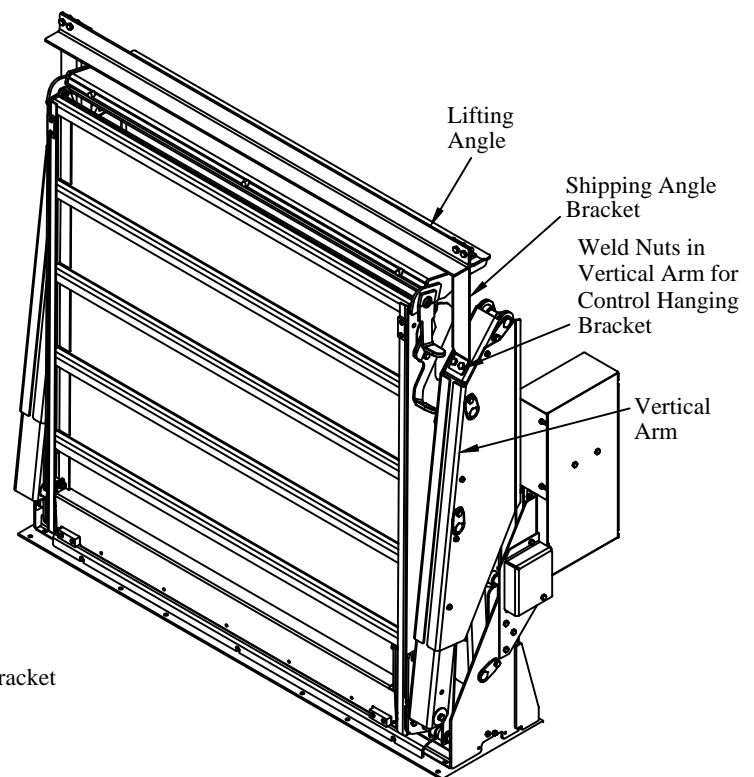

Figure 22: Lifting angle and vertical arm.
5. **Unbolt** and **Remove** the lifting angle and brackets (Figure 22). There are weld nuts inside the vertical arm.